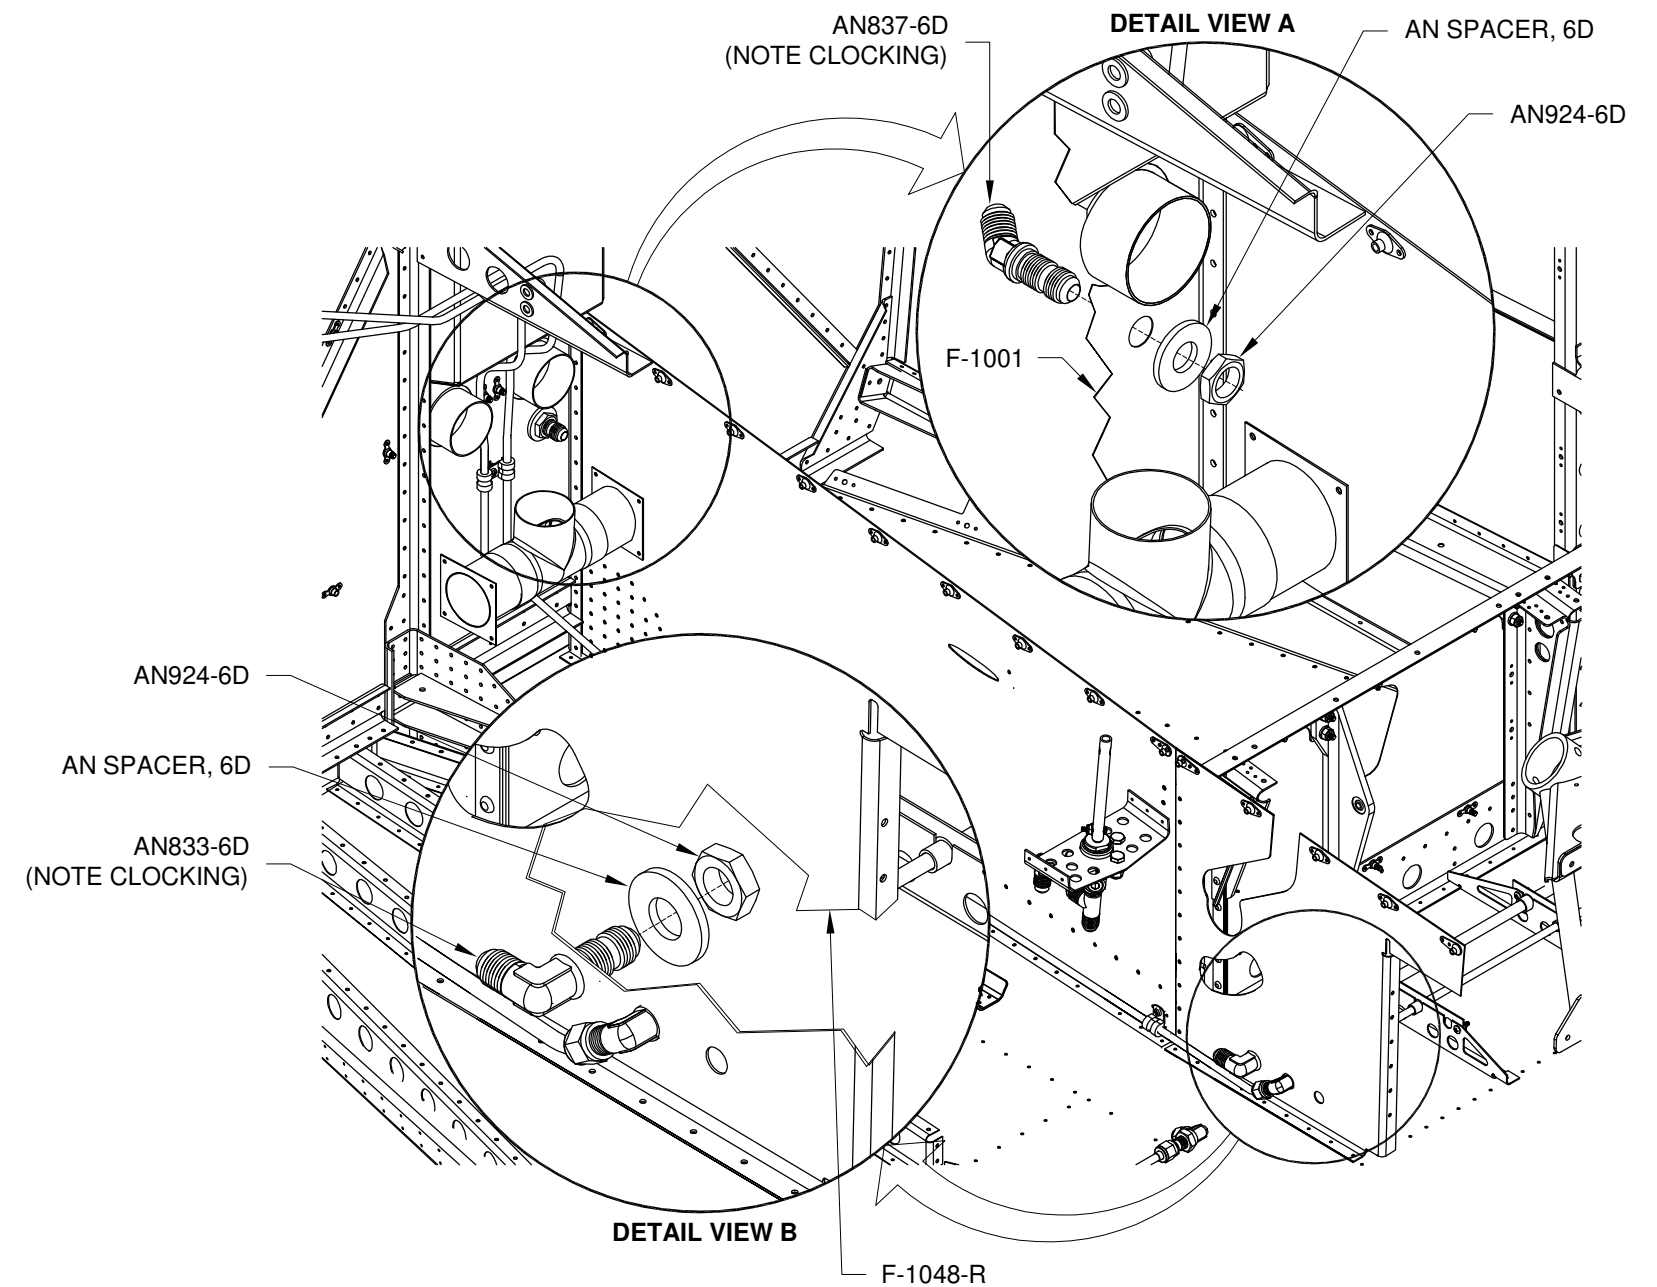

FIGURE 2: BULKHEAD FITTING INSTALLATION
Step 4: Attach the AN837-6D 45° Elbow Bulkhead Fitting, AN SPACER, 6D Washer, and AN924-6D Nut to the F-1001 Firewall Bulkhead Assembly as shown in the Detail View A in Figure 2. Note the clocking (up and right).
Step 5: Attach the AN833-6D 90° Elbow Bulkhead Fitting, AN SPACER, 6D Washer, and AN924-6D Nut to the F-1048-R and F-1048-L Fwd Fuselage Ribs as shown in the Detail View B in Figure 2. Note the clocking (forward and parallel to F-01072-1 Fwd Fuse Bottom Skin).